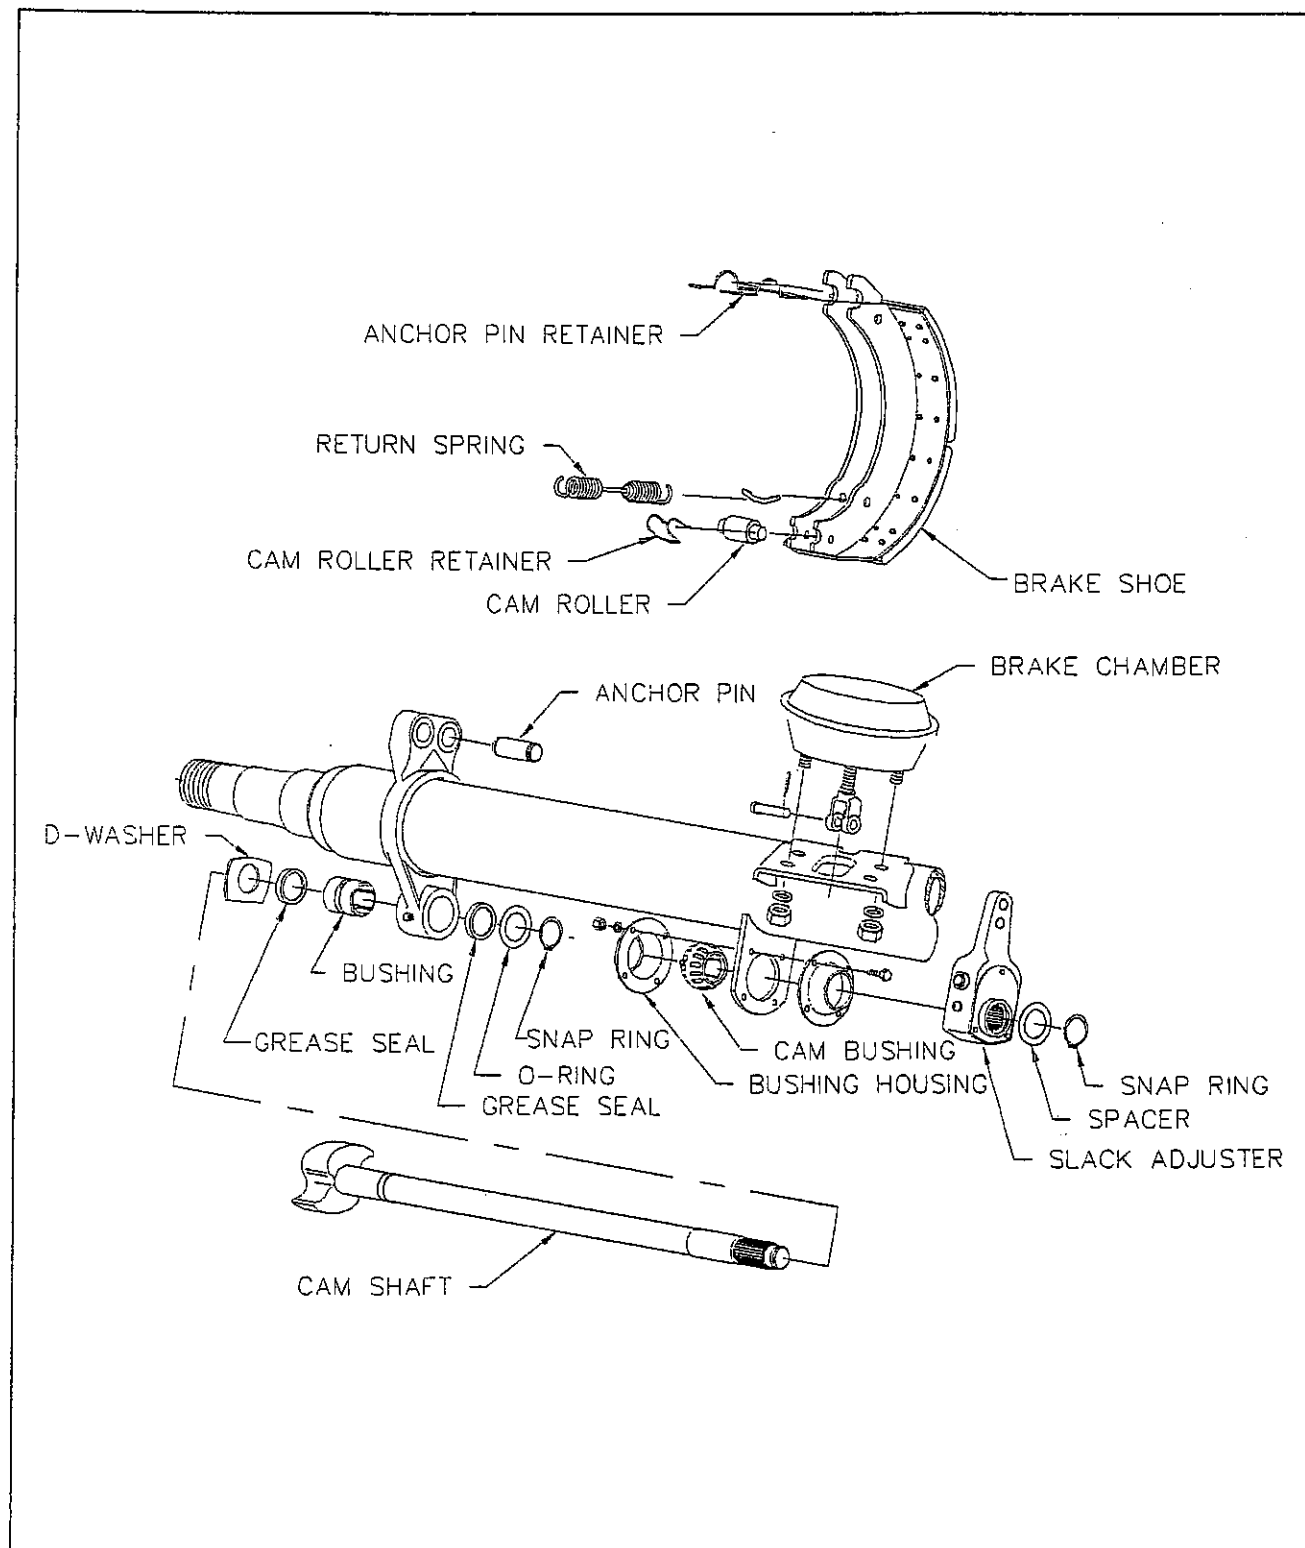

Figure 4-6 Axle and Brake Assembly
b. Air Brake Disassembly (see Figure 4-6)